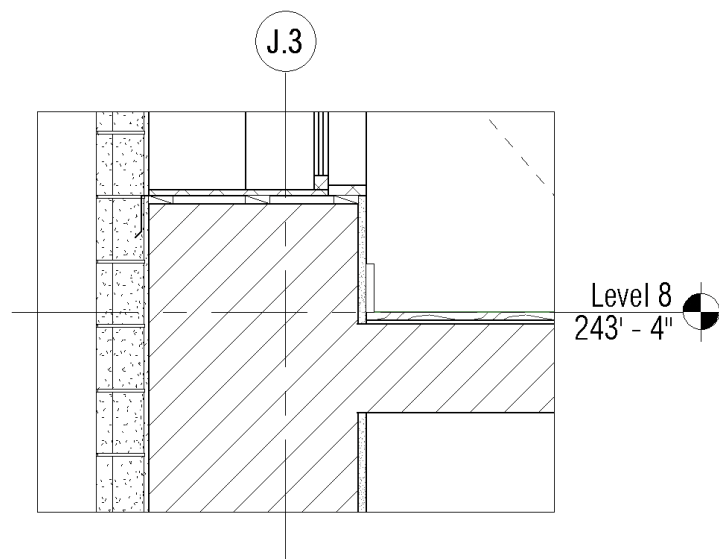

FIGURE 11.18 The finished window sill detail
11. Select the flashing detail line, and choose Bring To Front from the Arrange panel. The completed detail looks like Figure 11.18.